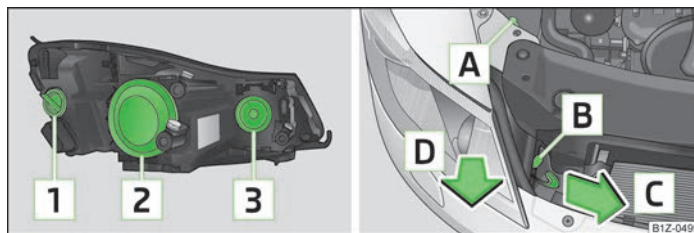

Fig. 160 Headlights: Bulb arrangement/removal
Overview of the location of the bulbs » Fig. 160.
- Unscrew the plastic nuts **A** » Fig. 160.
- Remove the rubber cover **Z** » Fig. 160 on page 192.
- > Remove the rubber cover » Fig. 160 on page 192.